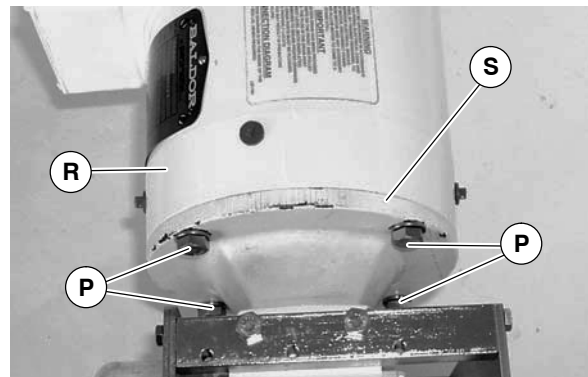

Figure 37
- Remove four screws and washers (P of Figure 37). Remove motor (R) from gear reducer (S).